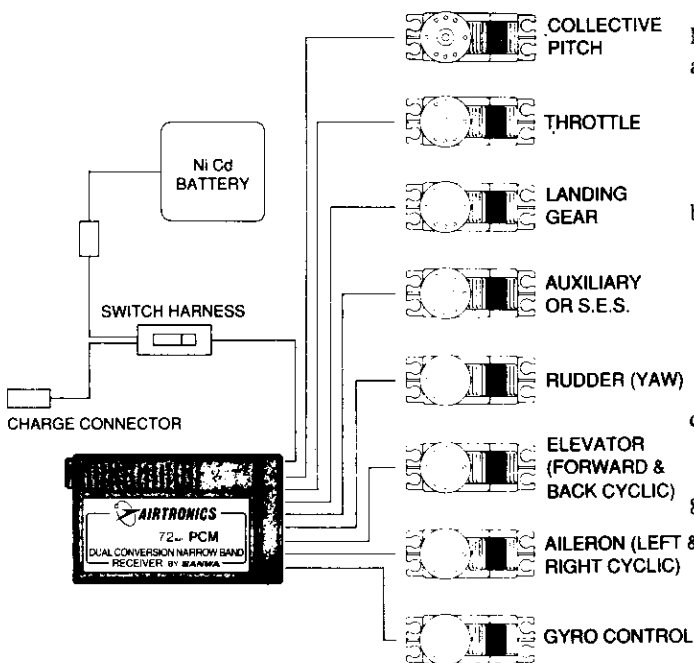
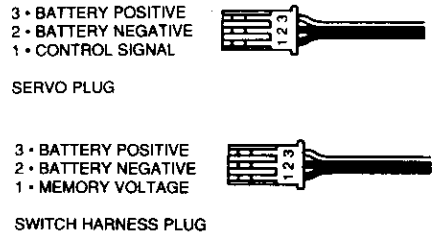

FIGURE 2
FIGURE 3
7. Figure 2 shows how to connect the components of your system together. Note the servo and switch harness plugs are inserted in the receiver so that pin #3 is towards the bottom of the receiver. When using any auxiliary equipment or testers, the connections as shown in Figure 3 must be observed. At this point, your objective is to get the system operating on your workbench. Once connected, you must then refer to the corresponding diagram for your system (Figure 4), showing the transmitter control stick functions. Note that a special switch harness is supplied with the Quantum PCM unit that should only be used with the PCM system. It applies "Keep Alive" voltage to the memory circuit in the receiver, and therefore should only be inserted into the battery "B" receptacle of the receiver.
- a. It is of no consequence at this point which servo you plug into which function since your aim is simply to learn and see how the system operates on your bench. The numbered channel outputs are indicated on the receiver case. See Figure 2 for channel identification.
- b. The connectors on your AIRTRONICS Radio Control System are rugged but should be handled with care. There are three socket contacts in each servo connector, numbered 1 through 3. The #1 is the signal pin, #2 is negative and #3 (RED) is positive, (Figure 3). Be sure to insert the plugs into the receiver so that the #3 pin is towards the bottom of the receiver.